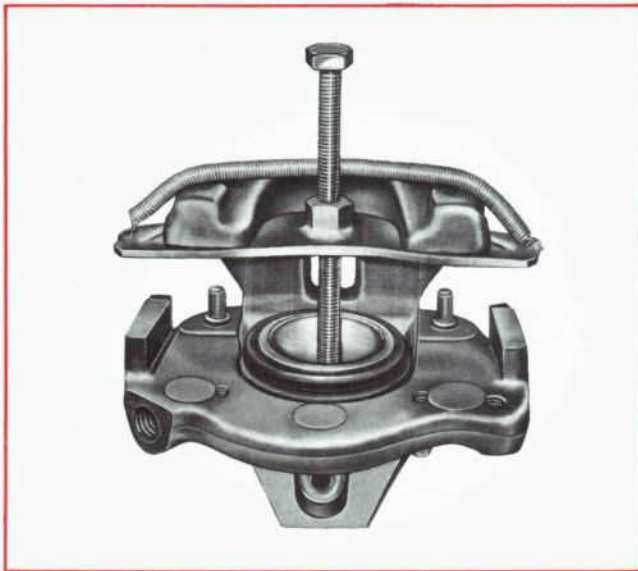

Figure 15 – The piston retracting tool positioned properly on the caliper legs.
3. Install the piston retracting tool in the caliper, as shown in Figure 15, with the brake shoe lances positioned in the slots in the caliper outer legs. See Figure 15. Push the piston into the cylinder bore in the following manner:
4. Install the piston retracting tool in the caliper as shown in Figure 15, with the brake shoe lances positioned in the slots in the caliper outer legs. Push the piston into the cylinder bore in the following manner:
**NOTE:** A piston retracting tool can be made from a discarded outer brake shoe and a threaded rod. See Figure 15 for details.